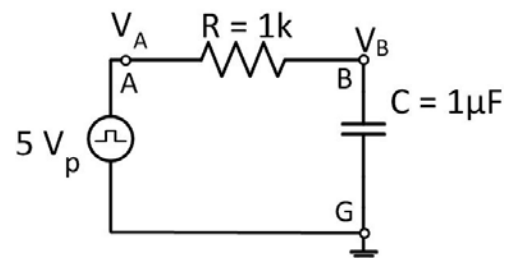

Fig. 1
Part A: Calculate the value of the time constant for RC circuit given in Fig. 1.
1. Assemble the circuit shown in Fig. 1. Connect Ch1 and Ch2 probes of CRO to node A and node B, respectively. Use the dc coupling mode of CRO for this part of the experiment.